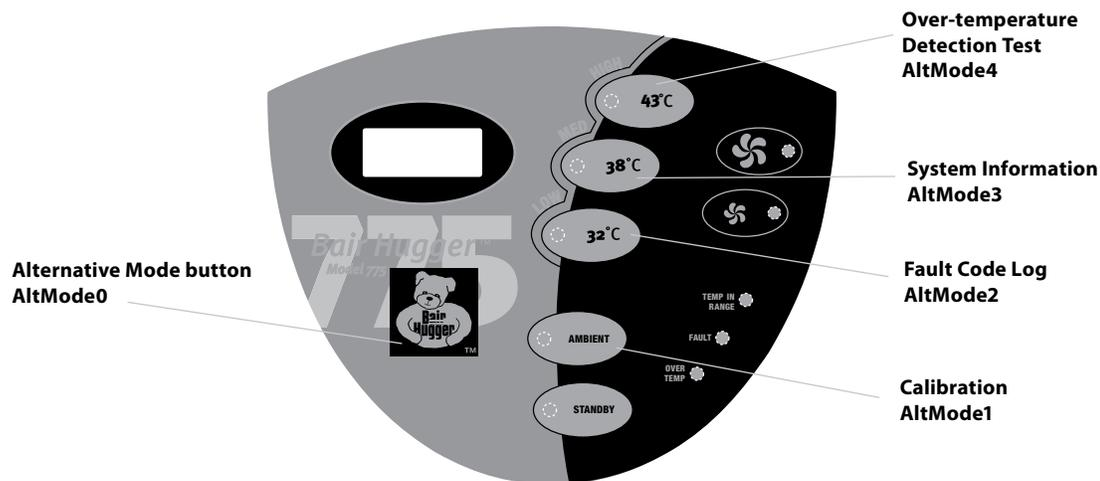

Figure 2. Location of Alternative Mode button
The Bair Hugger Model 775 temperature management unit has 5 alternative modes that allow access to the service and calibration utilities of the unit (see Figure 2 on page 11).
To enter one of the *alternative* modes, press the **Alternative Mode** button in combination with one of the operating mode buttons, also located on the front panel. Figure 2 indicates which keys must be pressed to enter each of the 5 *alternative* modes. When the correct combination of keys is pressed, the display reads “Hold for AltModeX,” where “X” represents the selected *alternative* mode.
4. Press the **Alternative Mode** button (see "Figure 2. Location of Alternative Mode button" on page 11) and the **Ambient** button simultaneously for 3 seconds. The temperature management unit is now in *Calibration* mode. In this mode, the temperature management unit performs the following tasks:
4. Press the **Alternative Mode** button (See "Figure 2. Location of Alternative Mode button" on page 11) and the **43°C** button simultaneously for 3 seconds. The temperature management unit is now in the *Over-Temperature Detection Test* mode. In this mode, the temperature management unit performs the following tasks:
2. Press the **Alternative Mode** button ("Figure 2. Location of Alternative Mode button" on page 11) and the **32°C** button simultaneously for three seconds. The temperature management unit is now in *Fault Code Log* mode. In this mode, the temperature management unit performs the following tasks: